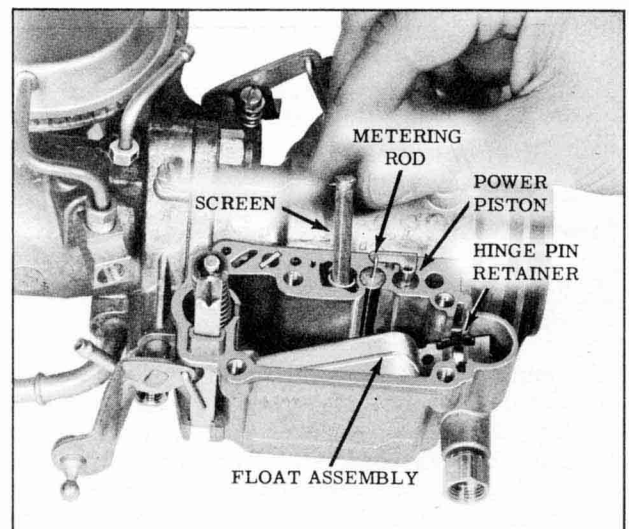

Fig. 9-117 Float Bowl Assembly
Remove hinge pin from float arm. (Fig. 9-117)
5. Remove screen from main well. (Fig. 9-117)
7. Remove the power piston and metering control rod assembly by turning small retaining pin to side, at the top of the power piston. (Caution - Piston is spring-loaded.) Then remove power piston, spring and metering rod. (Fig. 9-117)